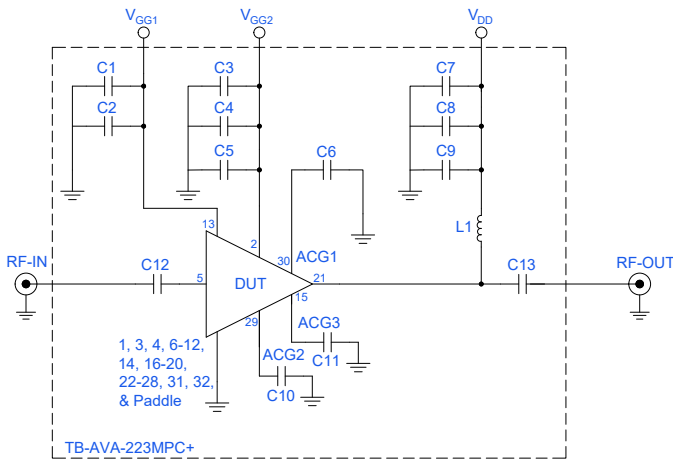

Figure 2. AVA-223MP+ Evaluation and Application Circuit
1. Tested on Mini-Circuits Characterization Test Board TB-AVA-223MPC+. See Figure 2. Board loss de-embedded to the device reference plane.